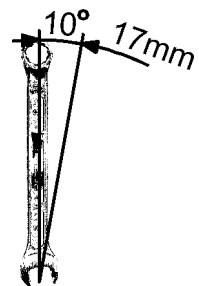

FIGURE 2
12. If the set is not correctly cut on one of the ends, loosen the five mounting screws (11) on that end and keep the one mounting screw tightened at the good end.
Turn the adjustment screw (10) on the bad end 1/36 revolution or 10°. See figure 2.
15. If the set is not correctly cut in the middle, loosen the four mounting screws (11) in the middle and keep the mounting screws tightened at the ends.
Turn the adjustment screw (10) in the middle 1/36 revolution or 10°. See figure 2.